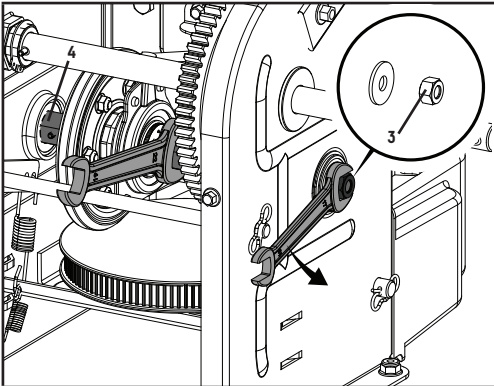

Figure 46
- Carefully remove the M10 hex nut (3) which secures the hex shaft (4) to the snowblower frame and lightly tap the shaft's end to dislodge the ball bearing from the right side of the frame (Fig. 46).